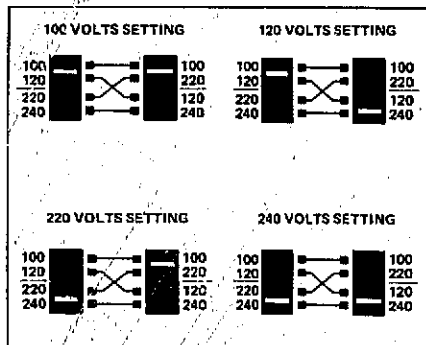

Figure 2-1. AC Voltage Selector Switch Positions
2. See Figure 2-1. Set rear-panel ac power level switches to select line voltage (100V, 120V, 220V, 240V) closest to voltage measured in step 1. Line voltage must be within $\pm 5\%$ or -10% of voltage setting. If line voltage is not within limits, an autotransformer must be connected between ac source and HP 853A.